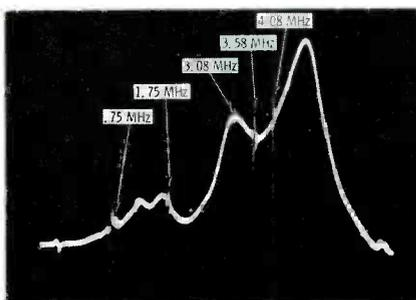

Fig. 15 Alignment curve of the 2nd chroma IF stage.
**NOTE:** The 14A9C51 Zenith chassis has only one alignment adjustment in the chroma circuit. Refer to the simplified schematic in Fig. 14. L214 is a very broadly tuned bandpass transformer; L216 has no core and is resonant to about 5.0 MHz. Additional tuning is provided by the series-resonant circuit, C259 and L222, in the emitter circuit of Q206, the second color amplifier. These fixed-tuned components provide extra gain at 3.08 MHz (see Fig. 15). Zenith does not list a procedure for VSM alignment; the following method was developed through trial and error and our experience with other models:
**NOTE:** Out of curiosity, we checked the curve of the second chroma IF, which includes L216. The self-resonant point was so high (about 5 MHz, see Fig. 15) it seemed likely that the extra gain above 4.5 MHz would reduce the effectiveness of the 4.5-MHz trap, L202. A core borrowed from another coil was inserted into L216, and after adjustment it produced maximum gain at 4.08 MHz. The new curve seemed to be an improvement since it gave almost double the original chroma gain and reduced the unwanted signal above 4.5 MHz. Overall VSM alignment then was tried experimentally by adjusting L214 and L216 to give the excellent curve shown in Fig. 17C.